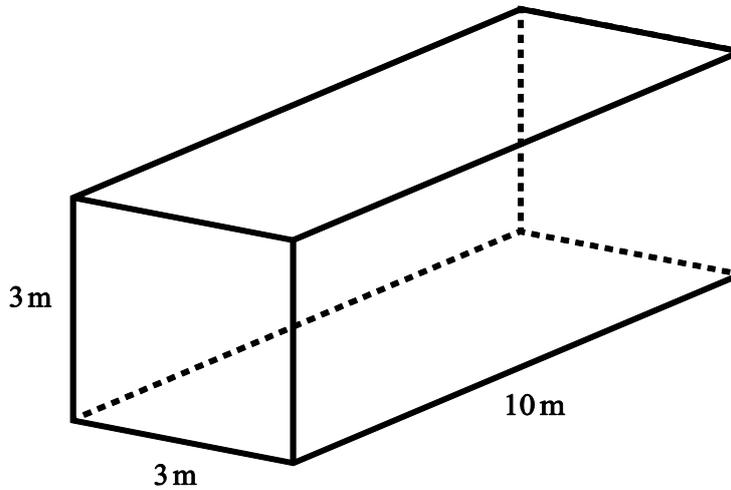

Fig. 7
- 6 A thermally insulated rigid box shown in Fig. 7 contains air at 12°C and pressure $P_1=100\text{kPa}$. The internal dimensions of the box are 3 m by 3 m by 10 m. Heat is supplied to the interior of the box at 1500 W.